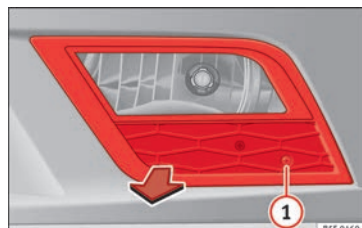

Fig. 95 Front fog light.
- Remove the bolt » **Fig. 95 ①** from the fog light grille with a screwdriver.